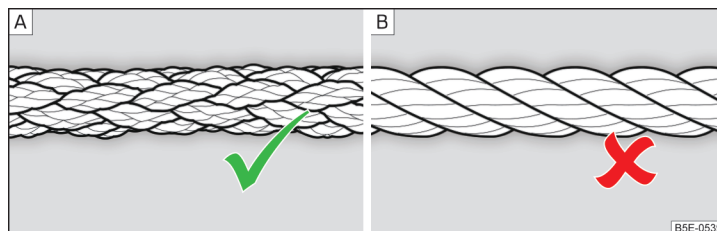

Fig. 117 Braided tow rope / Spiral tow rope
For towing, a braided tow rope is to be used » Fig. 117 - A.
- Do not use spiral rope for towing » Fig. 117 - [B], the towing eye may unscrew from the vehicle - risk of accident.